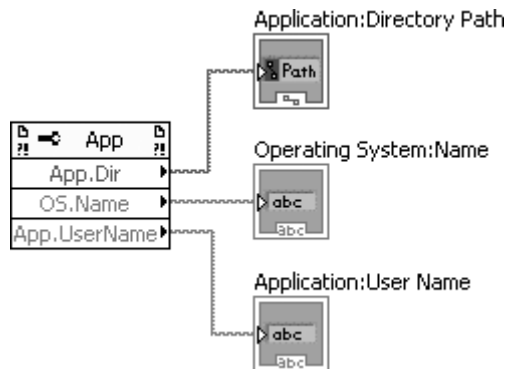

Figure 15.29
1. With a new blank VI, create the following block diagram by making an **Application Property Node** (from the **Programming>>Application Control** palette). You will be programmatically reading the directory LabVIEW is in, the OS name, and the LabVIEW user name (see Figure 15.29).